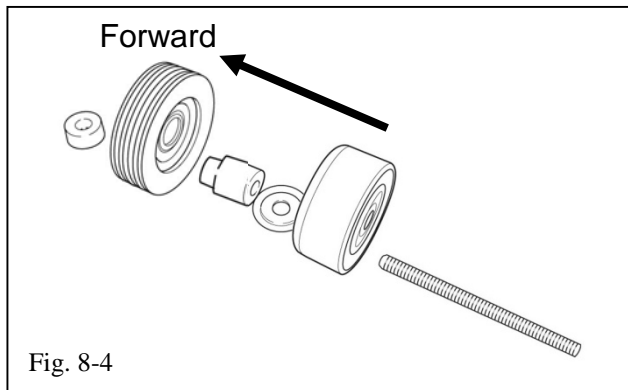

Fig. 8-4
- (c) Prepare Idler No. 1 (Fig. 8-4).
- (1) Install one of the double ended M10 studs (C6) and snug it in place with a flat blade screwdriver.
- (2) Reinstall the original smooth pulley and thin step washer (if present), the idler spacer without a groove (C11), the 5 rib idler pulley (C4) (snap ring facing the engine), and one of the short spacers (C9) (Fig. 8-4).
- (3) Temporarily install the M10 nut (C7) finger tight.